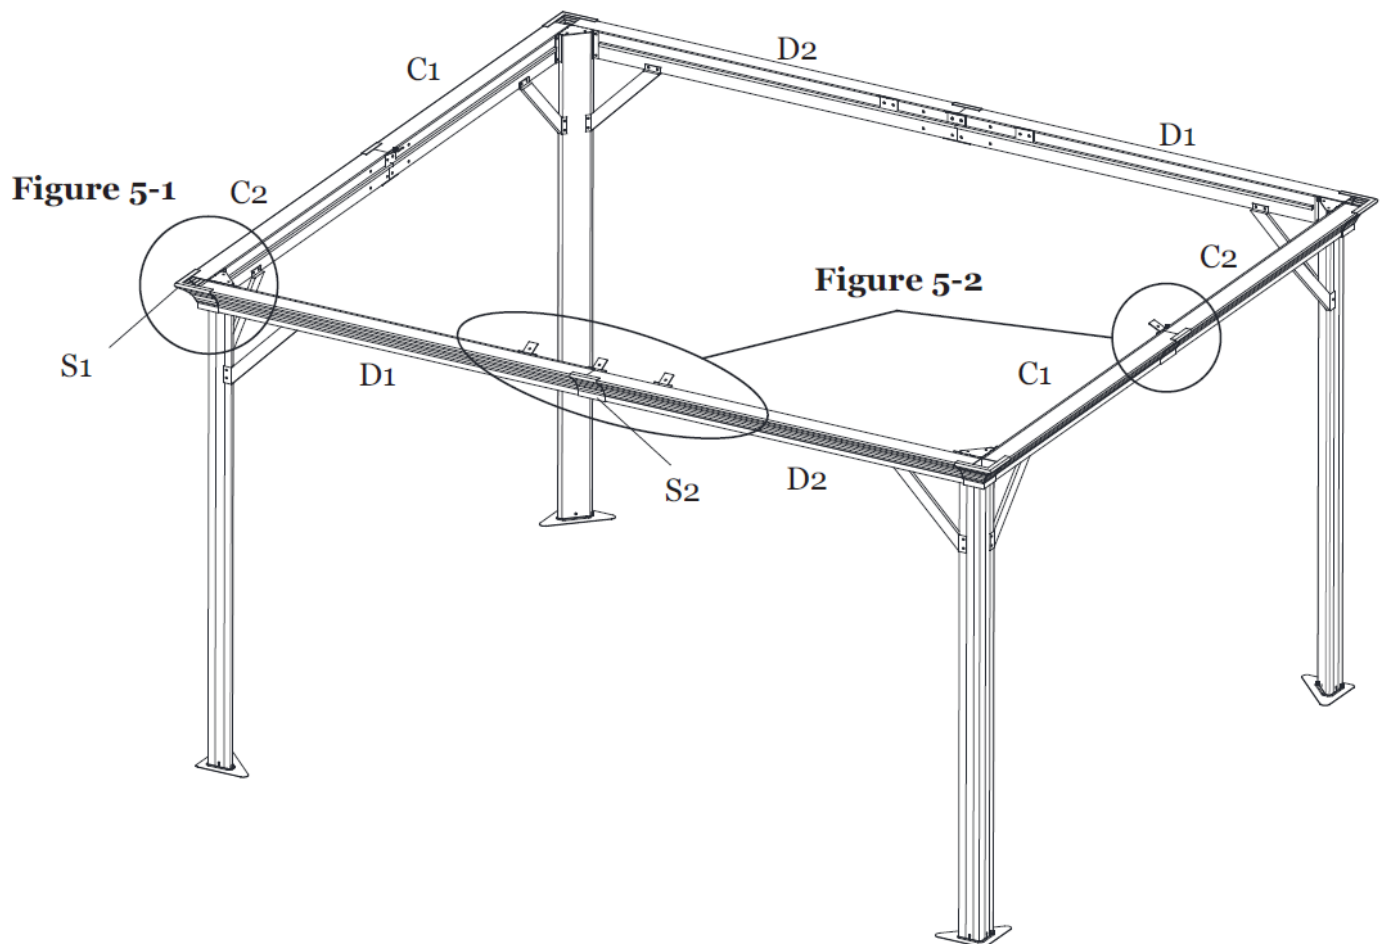

Figure 5-3
Step 5C: Repeat for opposite sides. **Tighten all Bolts.** See Figure 5-3.